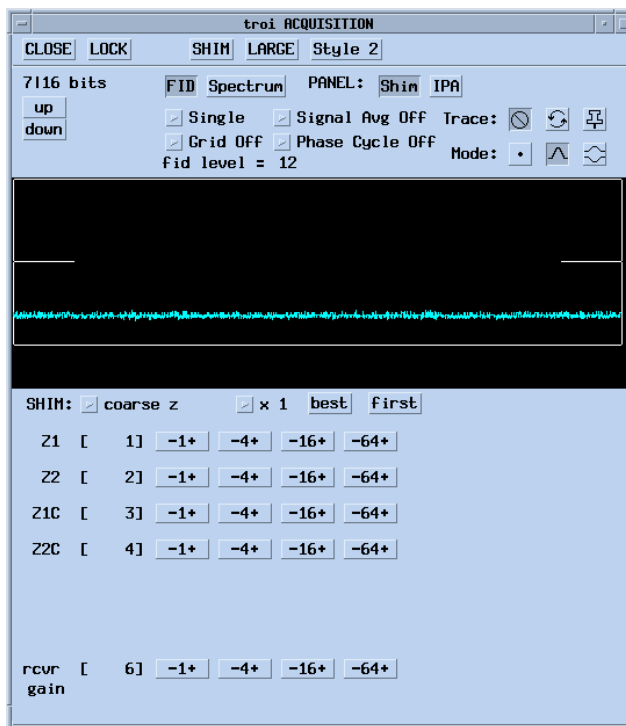
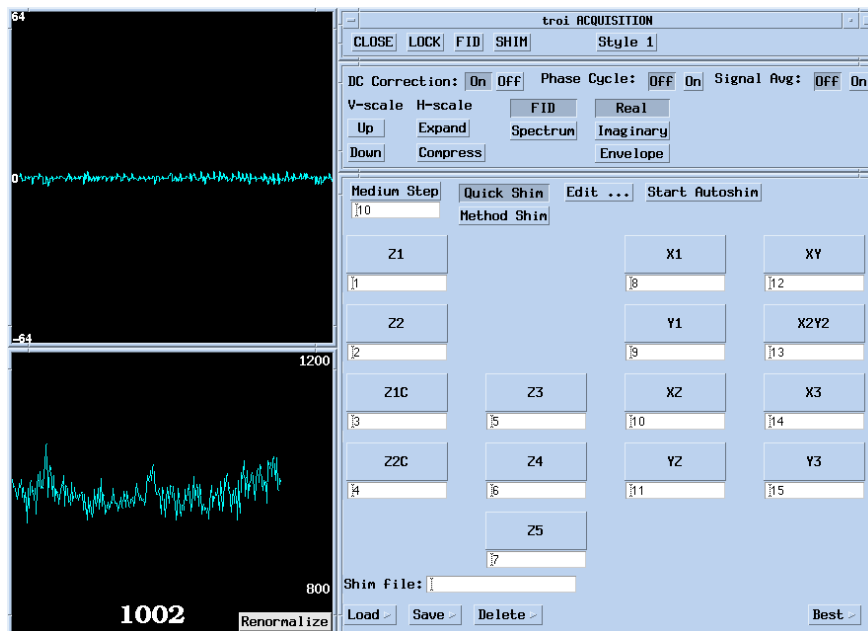

Figure 41. Opening Style 1 FID/Spectrum Display Window (`acqi` Program)
Figure 42. Style 2 FID Shimming Display in Real-time (acqi Program)
The FID/Spectrum display appears first when the FID button is clicked from any Acquisition window. VNMR provides two styles of FID shimming. The Style 1 FID shimming window is shown in Figure 41 and the Style 2 FID shimming windows are shown in Figure 42. Clicking on the Style 1 or Style 2 button near the top of the display toggles between the two styles.
Figure 41 shows a typical Style 1 FID/Spectrum display. In the opening FID/Spectrum display, the FID is observed in a graphics window at the center of the display.
Below this menu are two toggle buttons (shown as Single and Grid Off in Figure 41). (On the INOVA system, there might be two more buttons, see the following subsection “Style 1 Interface.”). The currently selected choice is displayed. The toggle button on the top left alternates between the choices Single and Summed:
- SHIM menu selects the group of shim parameters (up to six) to be manually adjusted (e.g., the axial z menu is shown in Figure 41).
Style 2 provides shimming on either the FID or the Spectrum. Figure 42 shows FID shimming selected.
The history of the quality of the shimming, as measured by the area under the FID envelope, is displayed by the Quality Meter, shown in Figure 42.